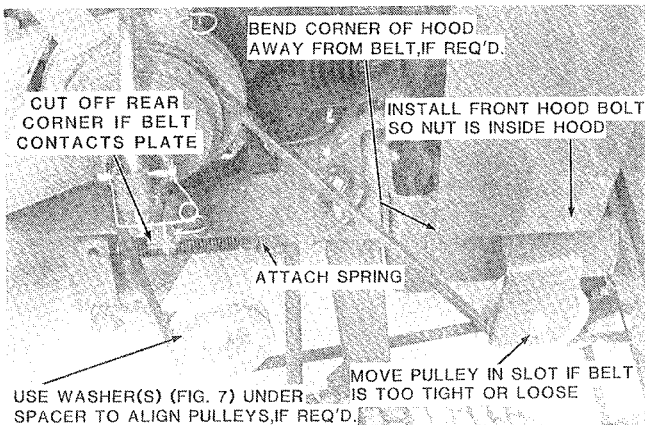

FIG. 16 Belt Installation
Install the drive belt as shown in Fig. 16. Note that one belt strand is outside the rod housing on the PTO, and that it runs below the front axle. Therefore, disassemble the PTO clutch to permit the belt to be inserted at the top. The right front wheel must also be rolled over one strand of the belt.
1. Remove the drive belt (Fig. 16)